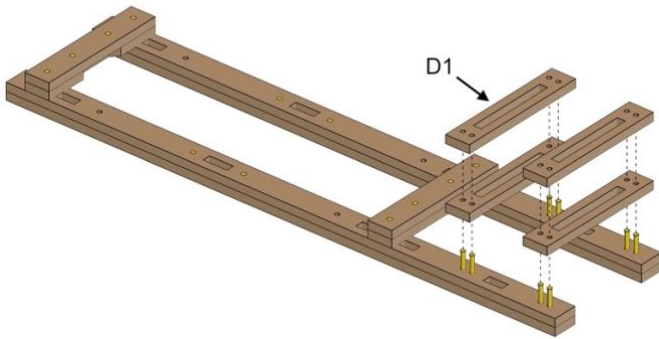

Fig. 13
- Align parts exactly as shown in Fig. 13.